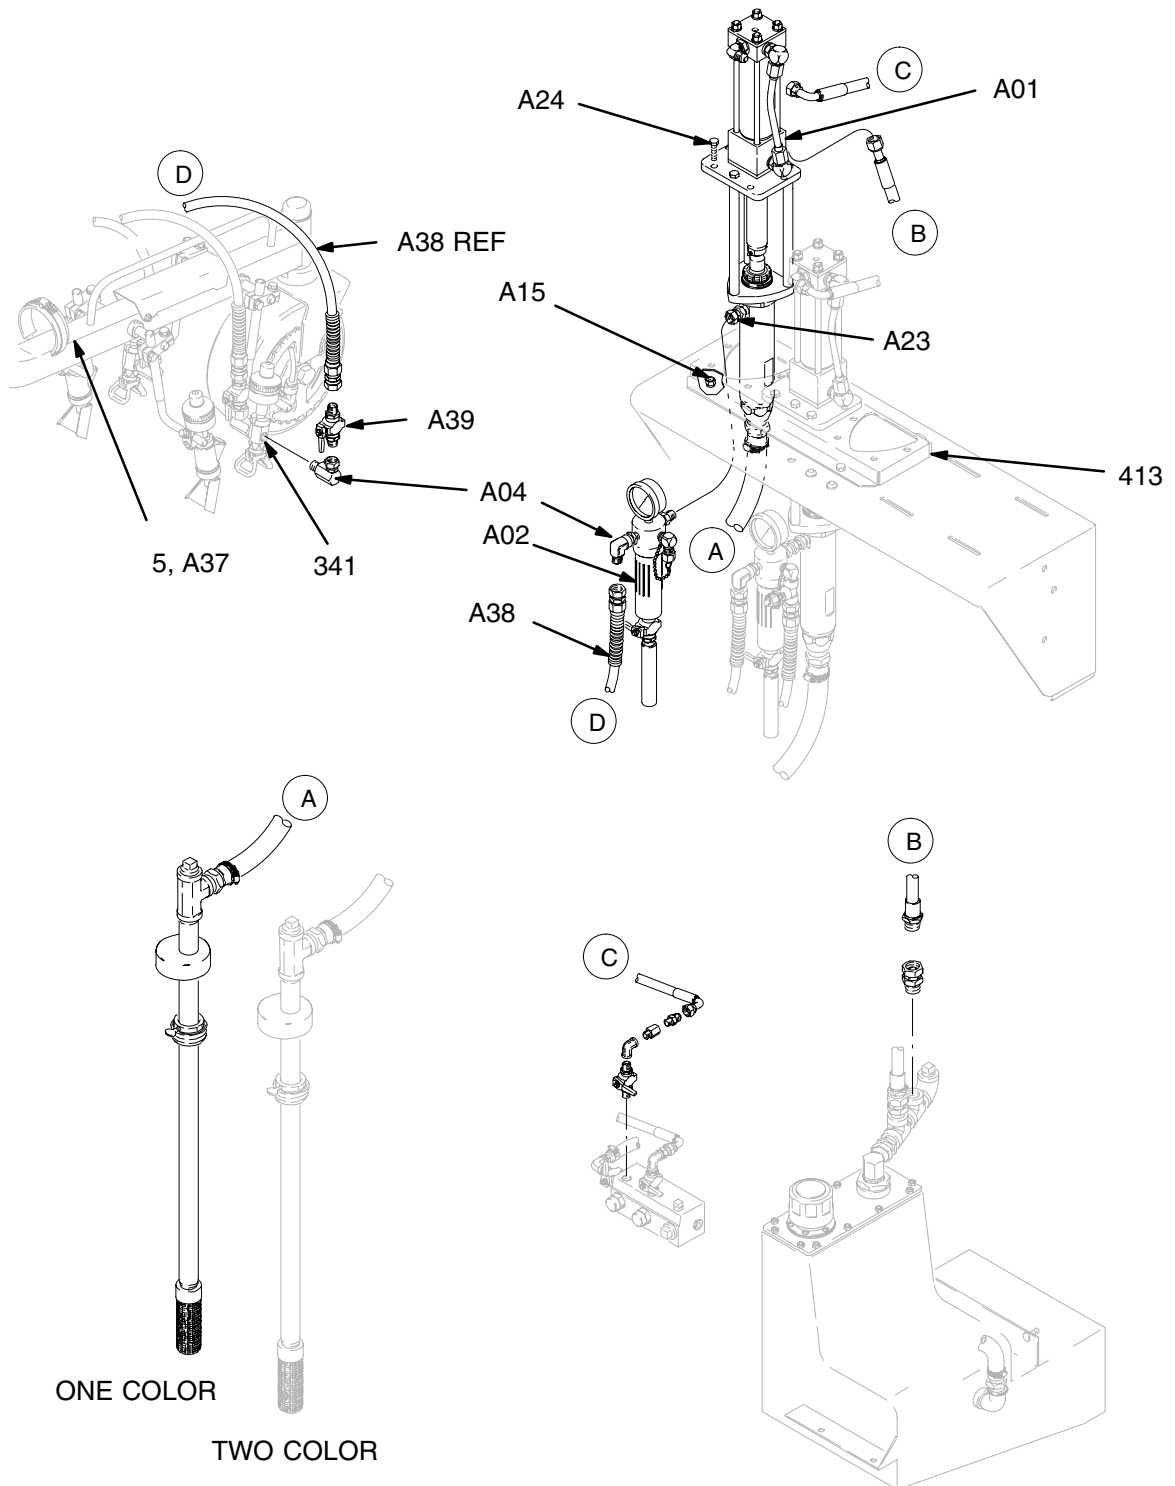
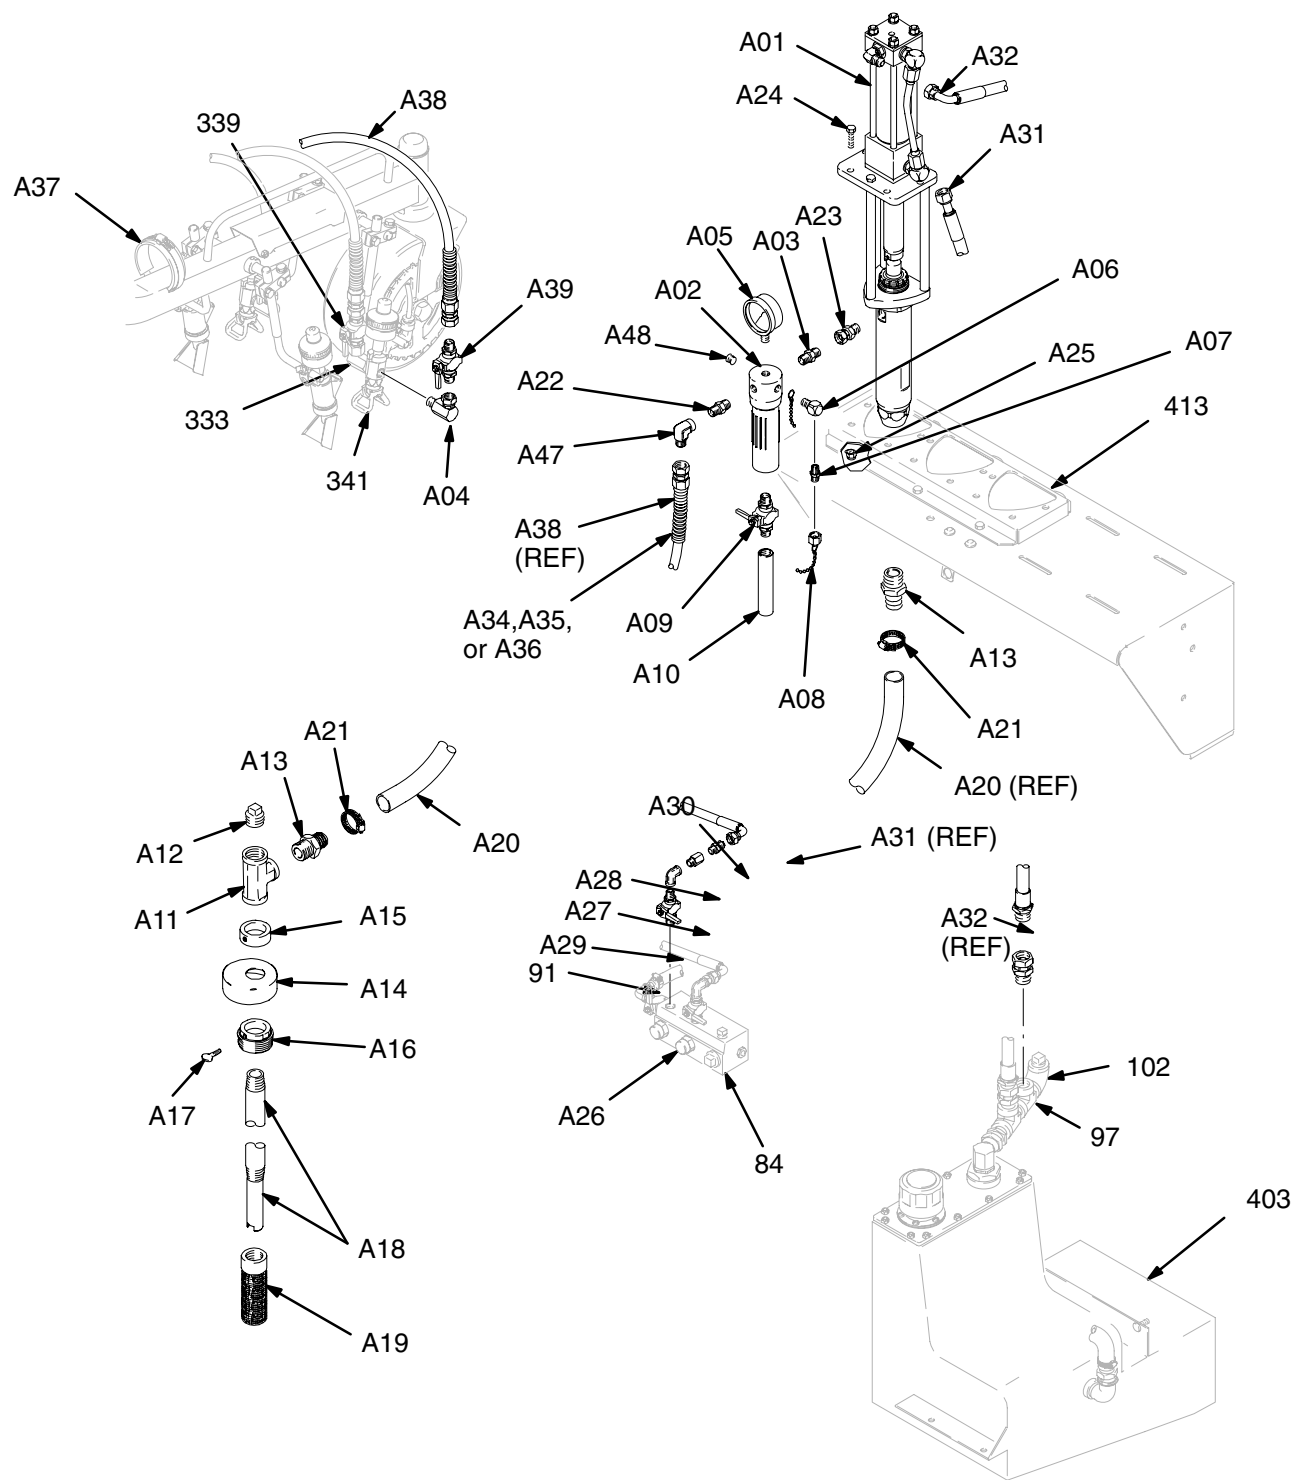

Fig. 1
Fig. 5
The following paragraphs provide instructions for installing the Second Color Kit components on the Road Lazer Striper. Refer to Figs. 1 thru 4 for installation. See Fig. 5 for parts list. The schematics on pages 10 and 11 provide additional detail and orientation information for installation. Index numbers with an A are kit parts. Other index numbers are parts for the Road Lazer.
1. See Figs. 1 and 2. Install kit pump (A01) by placing in open space in pump mount base (413) next to installed pump. Attach with four capscrews (A24) and four locknuts (A15).
1. See Figs. 1 and 3. Attach coupled hose (A20) from paint syphon to inlet on pump using fitting (A13) and clamp (A21).